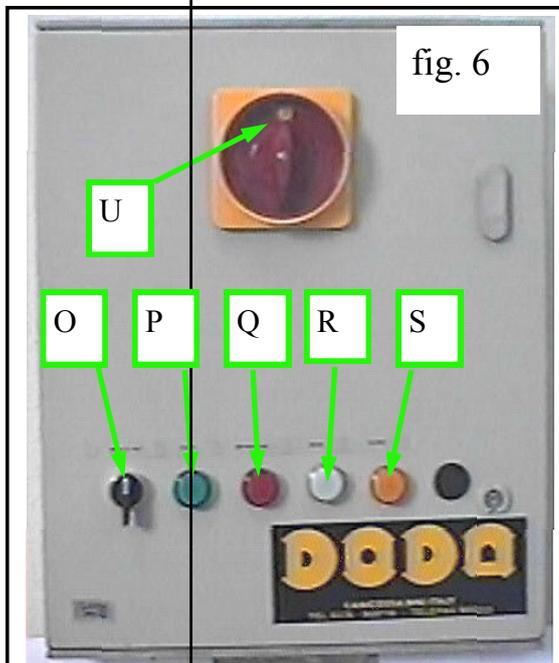

fig. 6
- 1) Open electric board **fig. 6** and connect the electric supply cables in the suitable terminal board **W fig. 7**.
- 3) Turn the main switch **U** knob from **zero** position to **one fig. 6** only for one second, then put it again to zero (check if the rotation direction of the electric motor is correct: see sticker on the back).
- put "Manual/Automatic" knob **O fig. 6** on Manual position, with only one shift; then the cycles programmed by the timers start.
In both cases, if washing has not been satisfactory restart it simply by turning the “Manual/Automatic” knob **O fig. 6** on Manual position - with only one shift.
Rotate main switch **U fig. 6** to position **One** and knob **O** to “Automatic”. Now, **if the feeding pump is provided with a level probe** the pump feeding can start.
In case you want to stop the cycle, in any time, turn knob **O fig. 6** to Manual:
- turn main switch **U** **fig. 6** to **One**
- to stop the plant, turn knob **O** **fig. 6** in central position